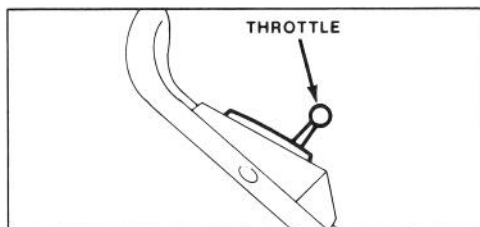

Figure 6
1. **CONTROLS** (Fig. 6) — Throttle/choke control is on upper handle.
2. **STARTING** (Fig. 6) — Push wire onto spark plug. Move throttle control to **CHOKE**. Cover hole in center of primer with thumb and push once. Pull fingertip starter and regulate throttle as required when engine starts.
3. **STOPPING** (Fig. 6) — Move throttle control to **OFF** to stop engine and blade. Pull wire off spark plug if mower is unattended or not used.